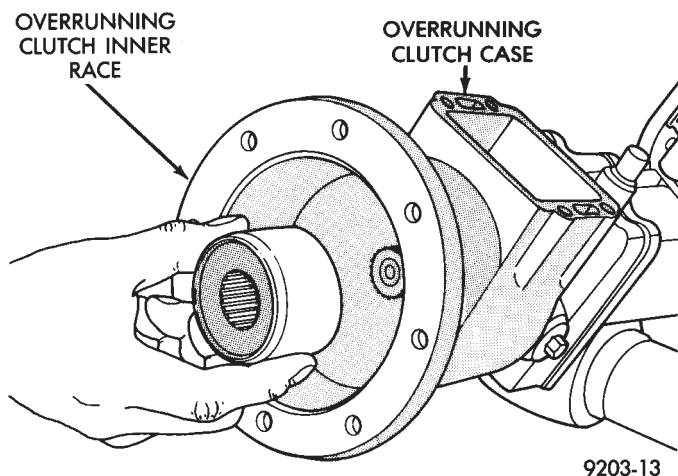

Fig. 13 Remove Overrunning Clutch Race
(11) Slide overrunning clutch inner race off of the shaft (Fig. 13).